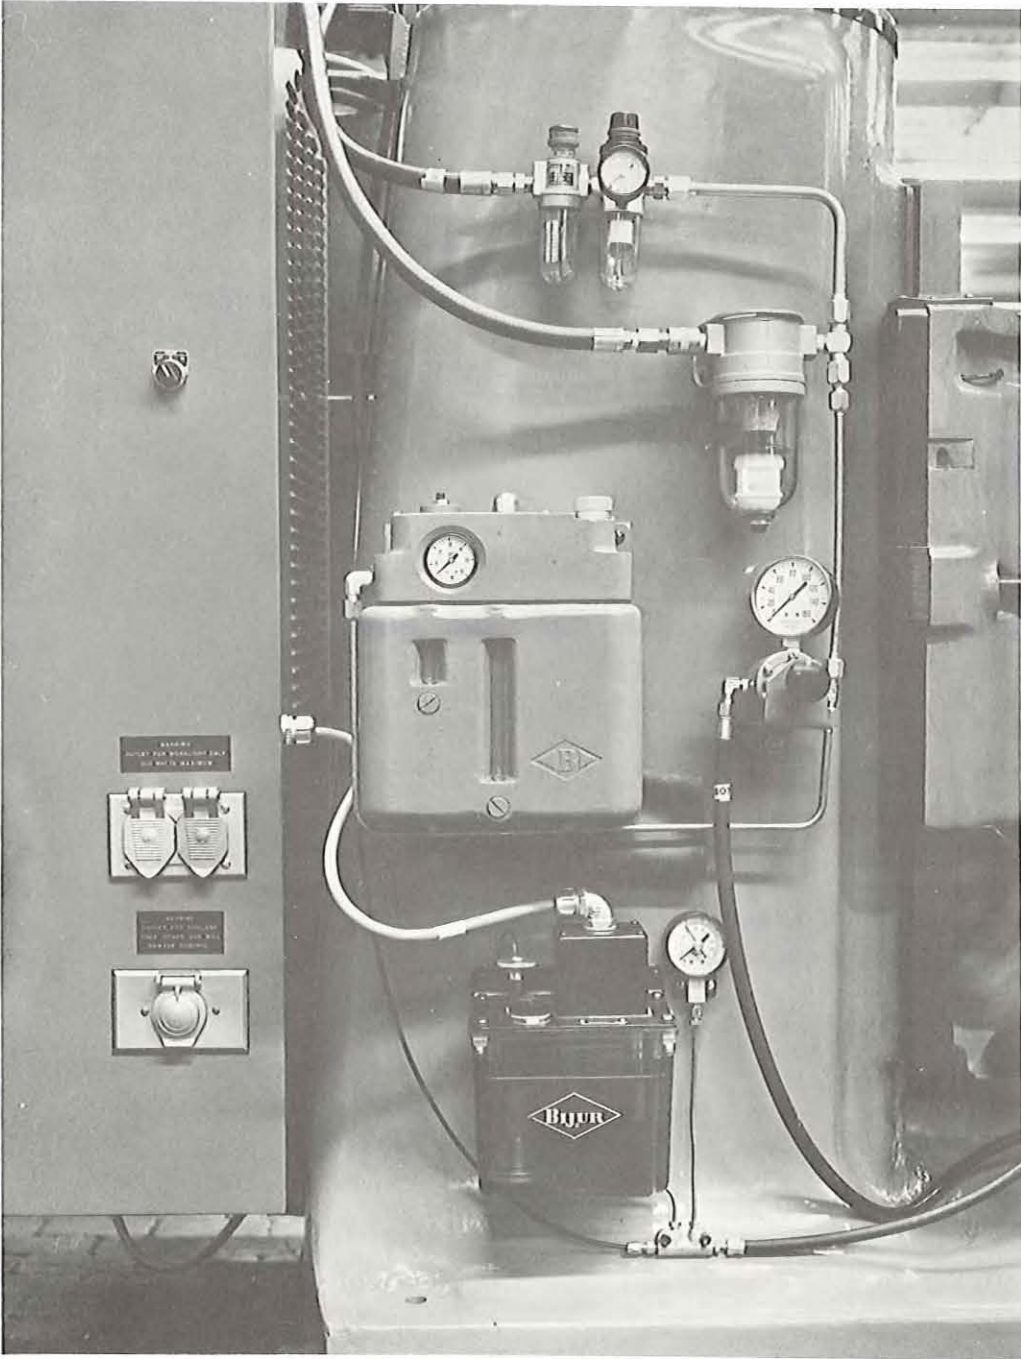

Figure 4-2. Lubrication and Pneumatic Systems
3. The forced lubrication system from the automatic one-shot pump to supply ways, gibs and ballscrews including the Z axis. (See Figure 4-2.)
(4) LEVELING